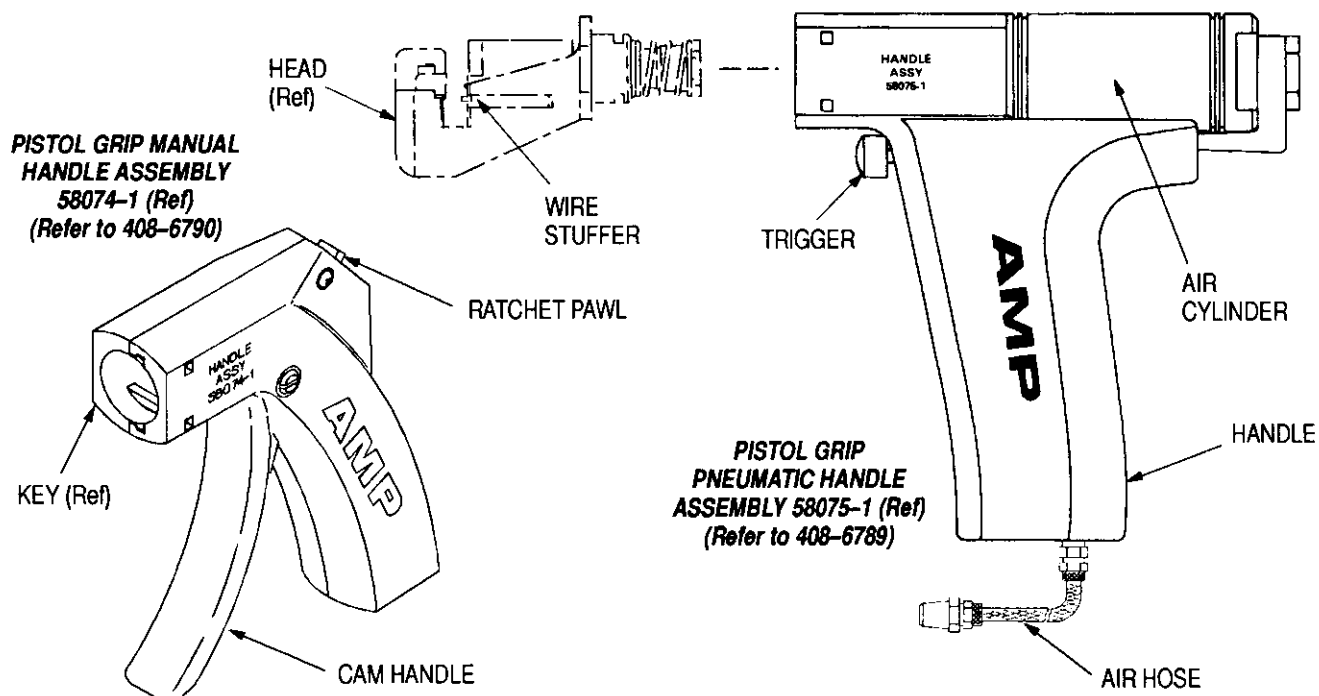

Figure 2
2. Squeeze the tool trigger (for the pneumatic handle assembly), cam handle (for the manual handle) or foot valve (for the bench mount pneumatic power assembly), and push the housing assembly against the wire inserter. See Figure 2.